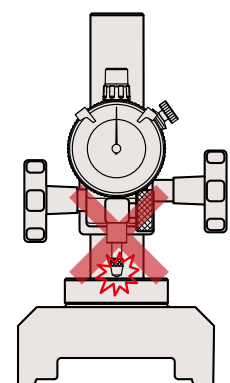

Fig. 2
1. Avoid repeatedly touching the anvil or the granite surface directly with the contact point, or dropping the contact point abruptly. (Fig. 2)